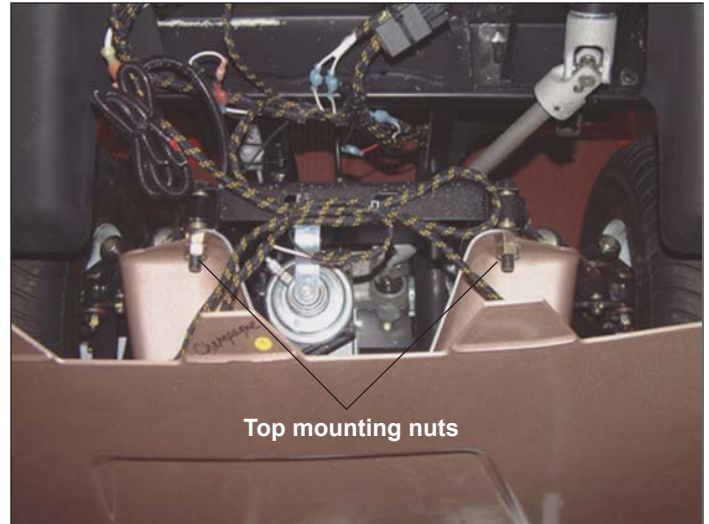

Figure 8-4. Front Bumper Top Mounting Nuts
2. Remove the two nuts securing the top of the bumper to the shock mounting bolts (Figure 8-4).